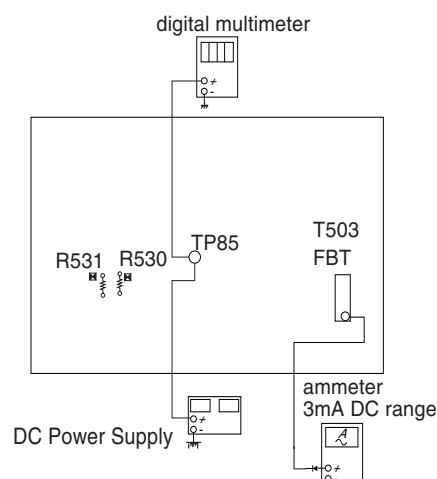

Figure 1
- Connect the current meter between Pin 11 of the FBT (T503) and the PWB land where Pin 11 would normally attach. (See Figure 1).
- Connect the digital voltmeter and the DC power supply to TP85 and ground. (See Figure 1)